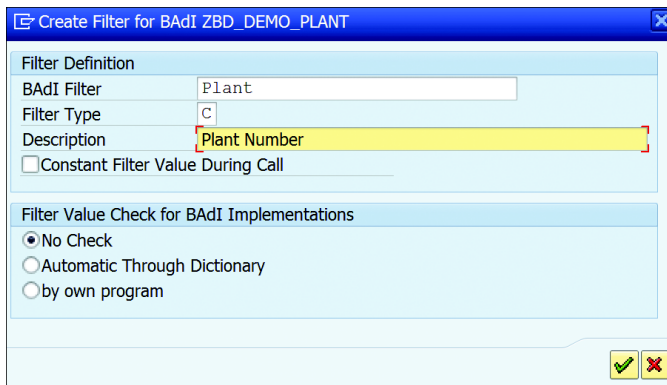

Figure 20.35 Create Filter
5. Setting a filter adds the field to the parameter interface. The calling program needs to supply this filter value to call the BAdI. The CREATE FILTER screen (see Figure 20.35) allows you to define the filter field. In this example, set the plant number as the filter.